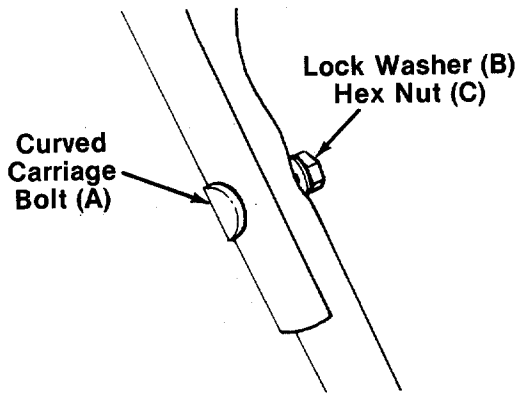

FIGURE 3.
- Place upper handle in position over lower handle. Control housing should be on the **left** side of the handle. Secure upper handle with two curved carriage bolts (A), lock washers (B) and hex nuts (C). See figure 3.